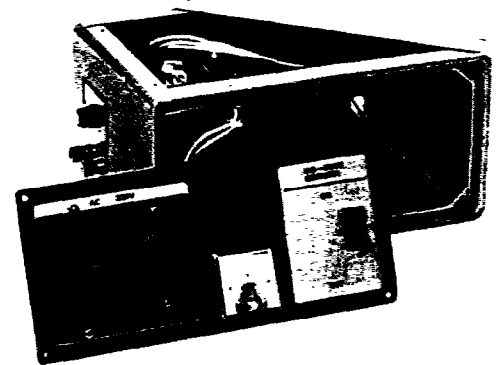

Fig. 10-34
1) Remove the control box top lid, and the front panel from the control box. (See Fig. 10-34.)